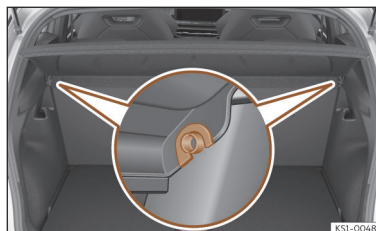

Fig. 162 In the luggage compartment: removing and installing the shelf.
- Remove the rear shelf from the side supports >>> **Fig. 162** by pulling it upwards and then take it out.
- Insert the cover horizontally so that the "recess" slots over the support fittings >>> **Fig. 162** and press down until it engages.